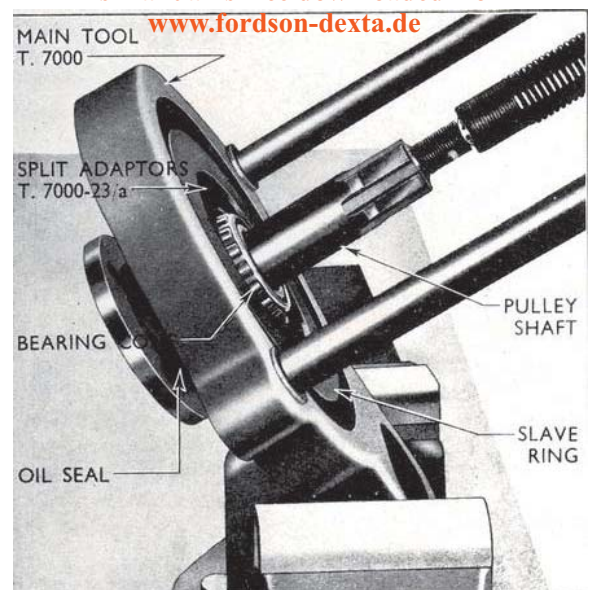

Fig. 9
6. To remove the pulley shaft outer bearing cone or oil seal from the shaft first install the slave ring in Main Tool T.7000, which should be suitably held in a vice equipped with brass vice jaws. Insert the small end of the pulley shaft through the slave ring towards the tool centre screw so that the bearing cone is within the slave ring. Locate the split adaptors T.7000-23/a around the bearing cone and in the slave ring then turn the centre screw to press the shaft out of the bearing cone (see Fig. 9). With the bearing cone removed the oil seal is free to be withdrawn from the shaft.